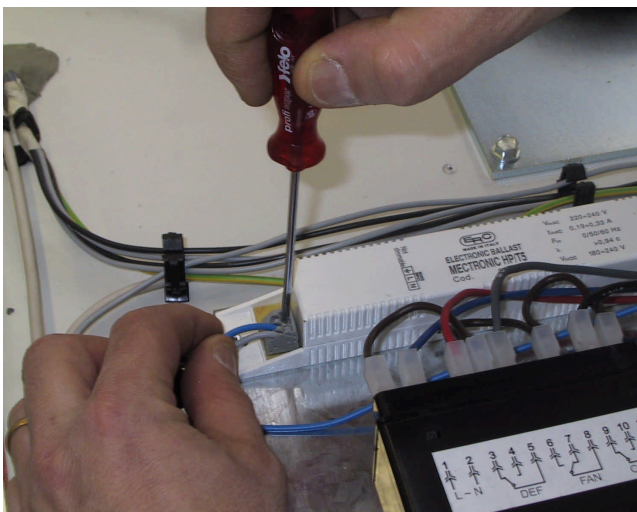
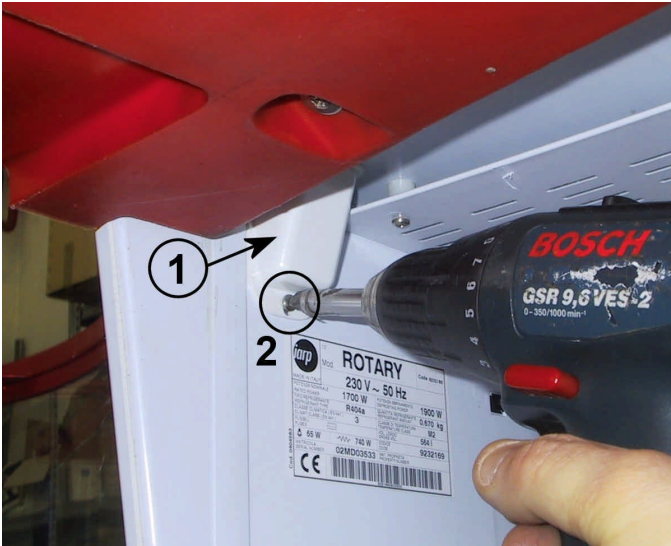

Figure 39
Figure 41
Remove the top cover (25) as described in the section 2.3.1.1 and then disconnect the lamp supply wires from the ballast (BA) (72) using a bit as indicated in fig. 39 and 40. Then remove the plastic cover marked with “1” in fig. 41 by unscrewing the screw marked with “2” in order to release the door supply wires.
4.1.9 CABINET FRAME HEATER REPLACEMENT (RCA) (76)
In order to reach the cabinet frame heater (RCA) (76) it is necessary to remove the top of the unit (25) as explained in par. 2.3.1.1., the wiring cover located on the inner upper side of the tank (Fig. 41) and the doors (92 and 93) as indicated in par. 2.6.1.2.